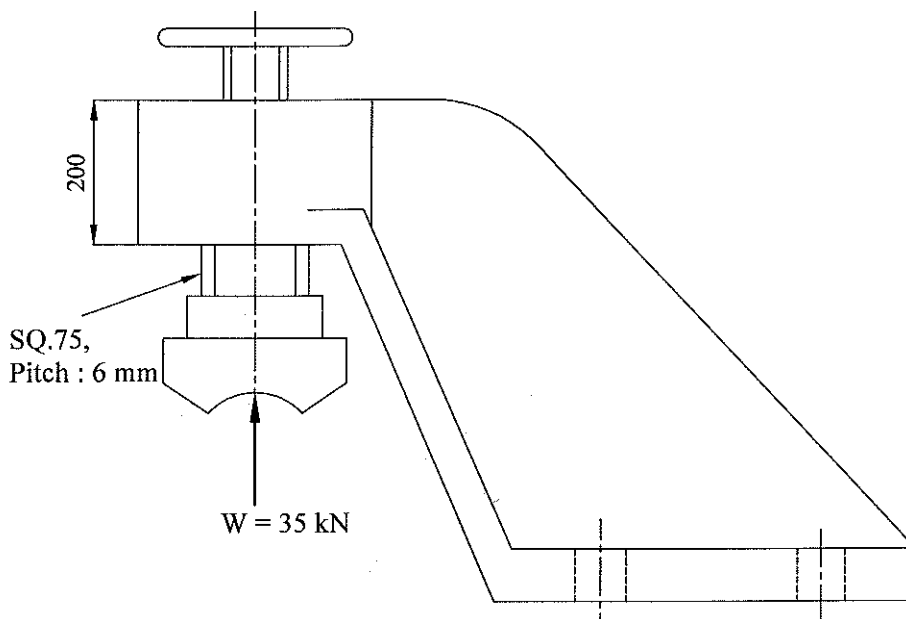

Fig. 2
- b) A shaft straightener is as shown in fig. 2. The axial load on the screw member is 35 kN. Find the forces required at the rim of the hand wheel of 300 mm diameter. Assume coefficient of friction in the threads as 0.12. Determine the maximum compressive stress, bearing pressure and shear stresses in the screw. Determine the efficiency of the arrangement, neglecting collar friction. Ignore the effect of bending due to force at the hand wheel. 8